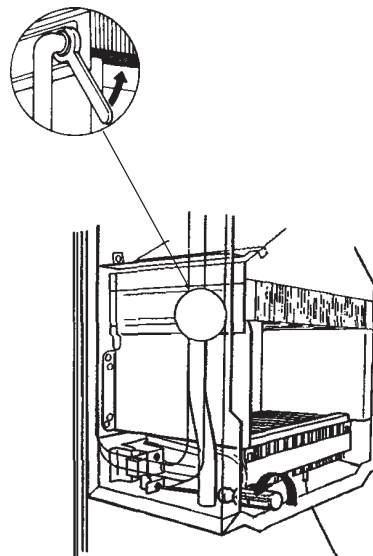
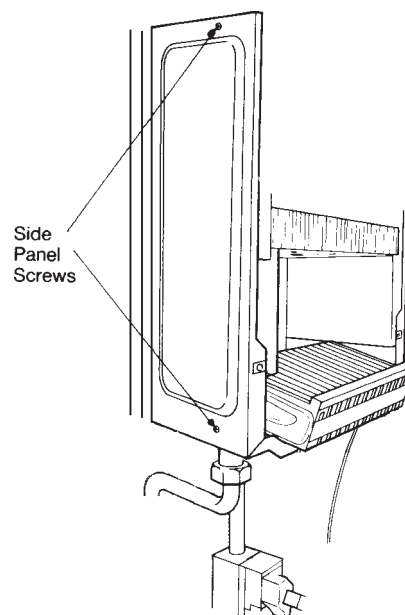

Fig. 25
Fig. 26
Refer to figs. 25 & 26
- 8.6.4 Remove four burner retaining screws (fig. 25). Ease burner forward and rest on chamber base (fig. 26).
Note: If difficulty is found in relocating the burner securing screws, easier access can be gained by removing the two side panels (fig. 26).
Refer to Fig. 25
- 8.8.5 Remove both side panels, 2 screws each (fig.26)
- 8.8.9 Unscrew unions on either side of main heat exchanger fig. 25.